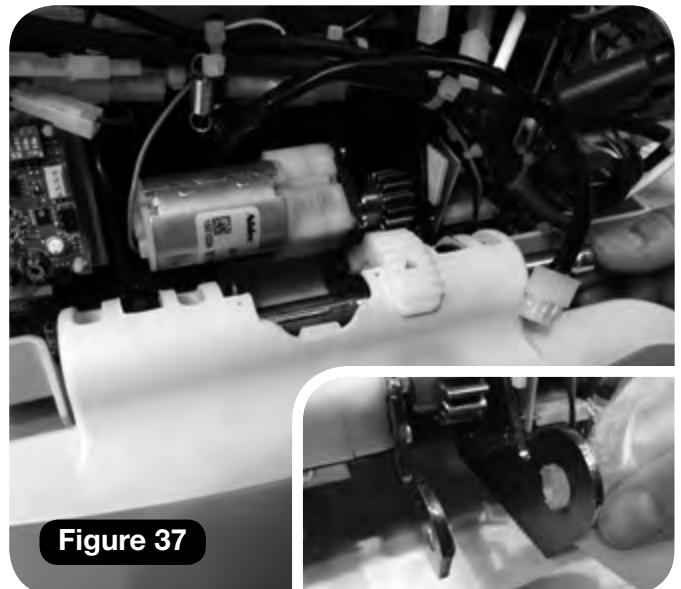

Figure 37
- c Attach the footrest to the power pack (**Figure 37**).